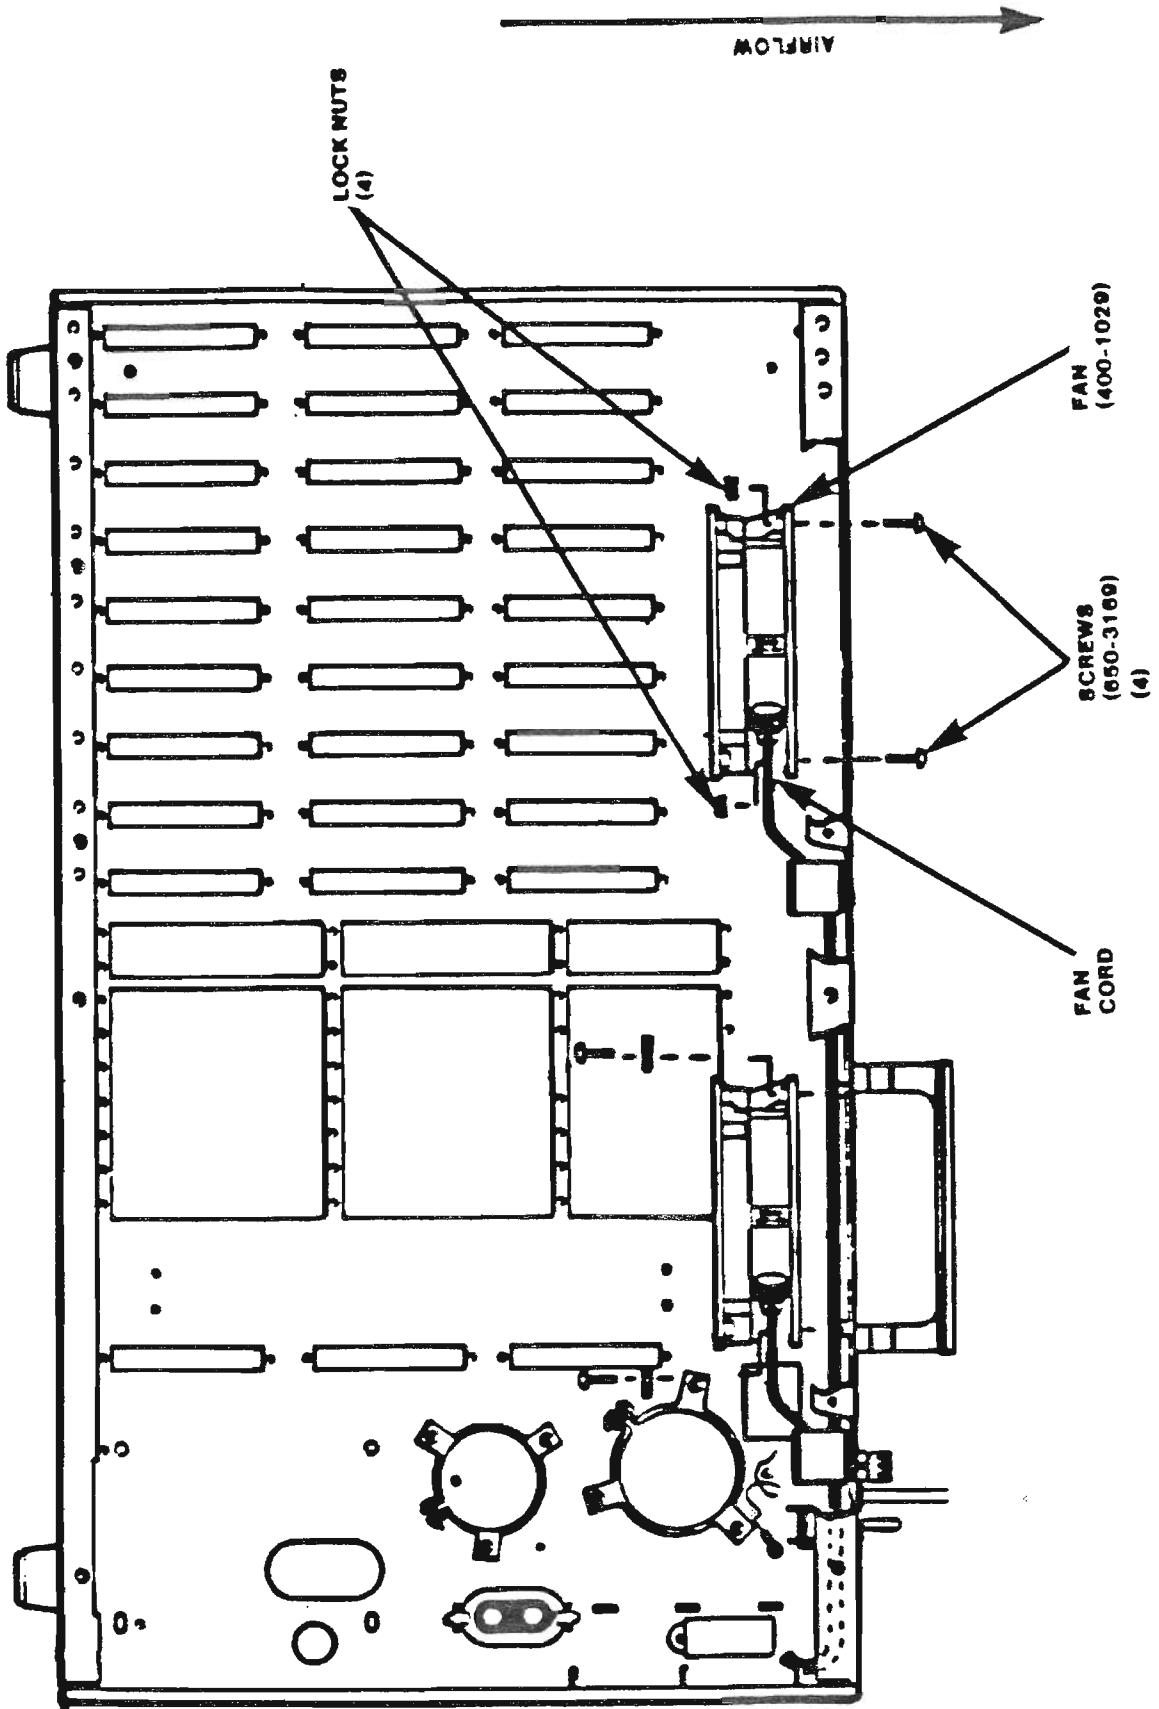

FIGURE 2 MVP FAN INSTALLATION
B. Refer to Figure 2. Replace the fan in the I/O section of the MVP chassis as follows: